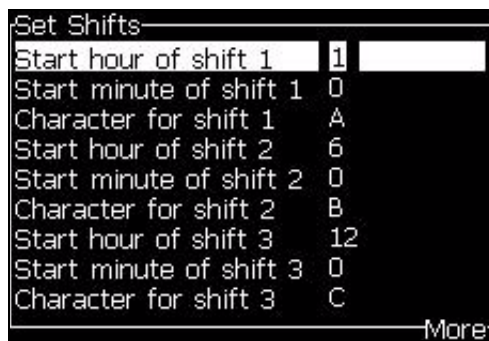

Figure 5-42: Set the Shifts
- 3 Press the *Enter* key to open the *Set Shifts* dialog box (Figure 5-42 on page 5-52).